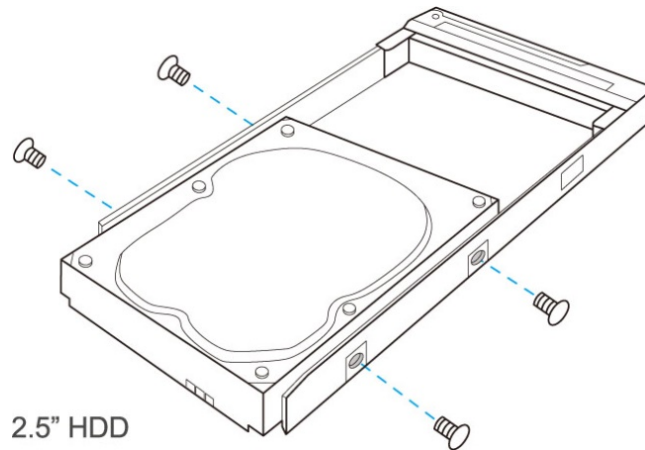

Figure 3-7: Drive Tray Installation
Step 3: Attach the drive to the tray and secure the four screws in the both sides of the drive tray (**Figure 3-7**).